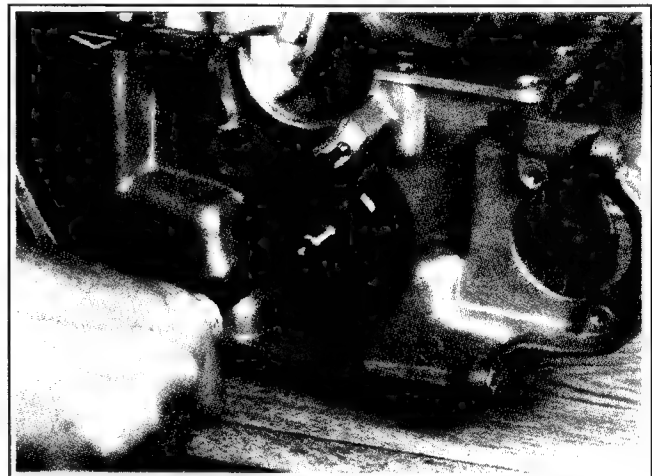

Figure 10-19. Oil Pump Cover Removal.
2. Remove the three screws holding the oil pump cover to the lower crankcase half. See Figure 10-19.